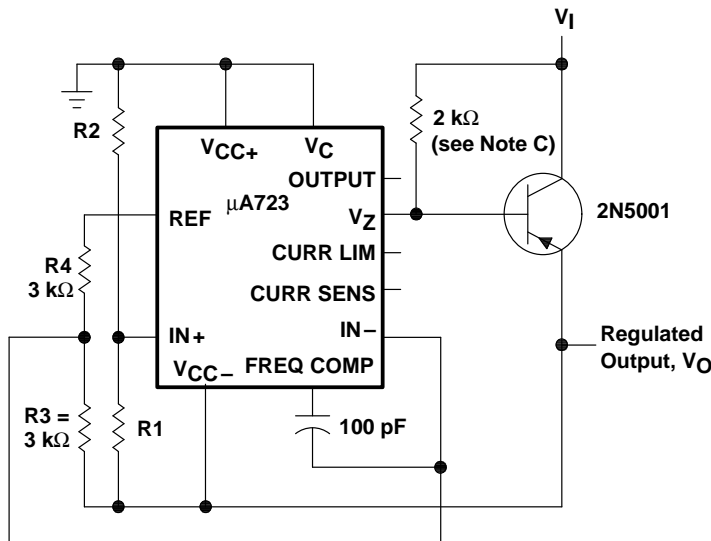

Figure 3. Negative-Voltage Regulator
6. For Figures 3, 8, and 10, the device requires a minimum of 9 V between V_{CC+} and V_{CC-} when V_O is equal to or more positive than -9 V.
6. For Figures 3, 8, and 10, the device requires a minimum of 9 V between V_{CC+} and V_{CC-} when V_O is equal to or more positive than –9 V.